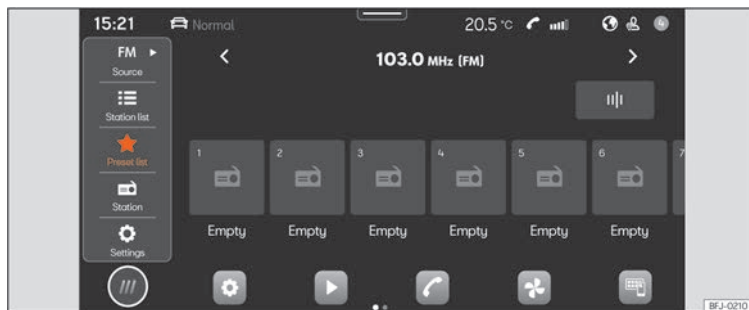

Fig. 142 Schematic representation: Radio view
- Press **HOME** > >>> **Fig. 142**.